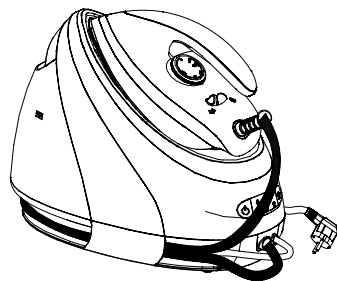

FIGURE 5
4. Place the iron on its iron rest and lock it (refer to the “Iron locking system” paragraph). **Leave the steam generator iron (iron and boiler) to cool down completely before storing it** in a safe place. Wrap the power and steam cords around the steam generator iron to store them (see figure 5 opposite).